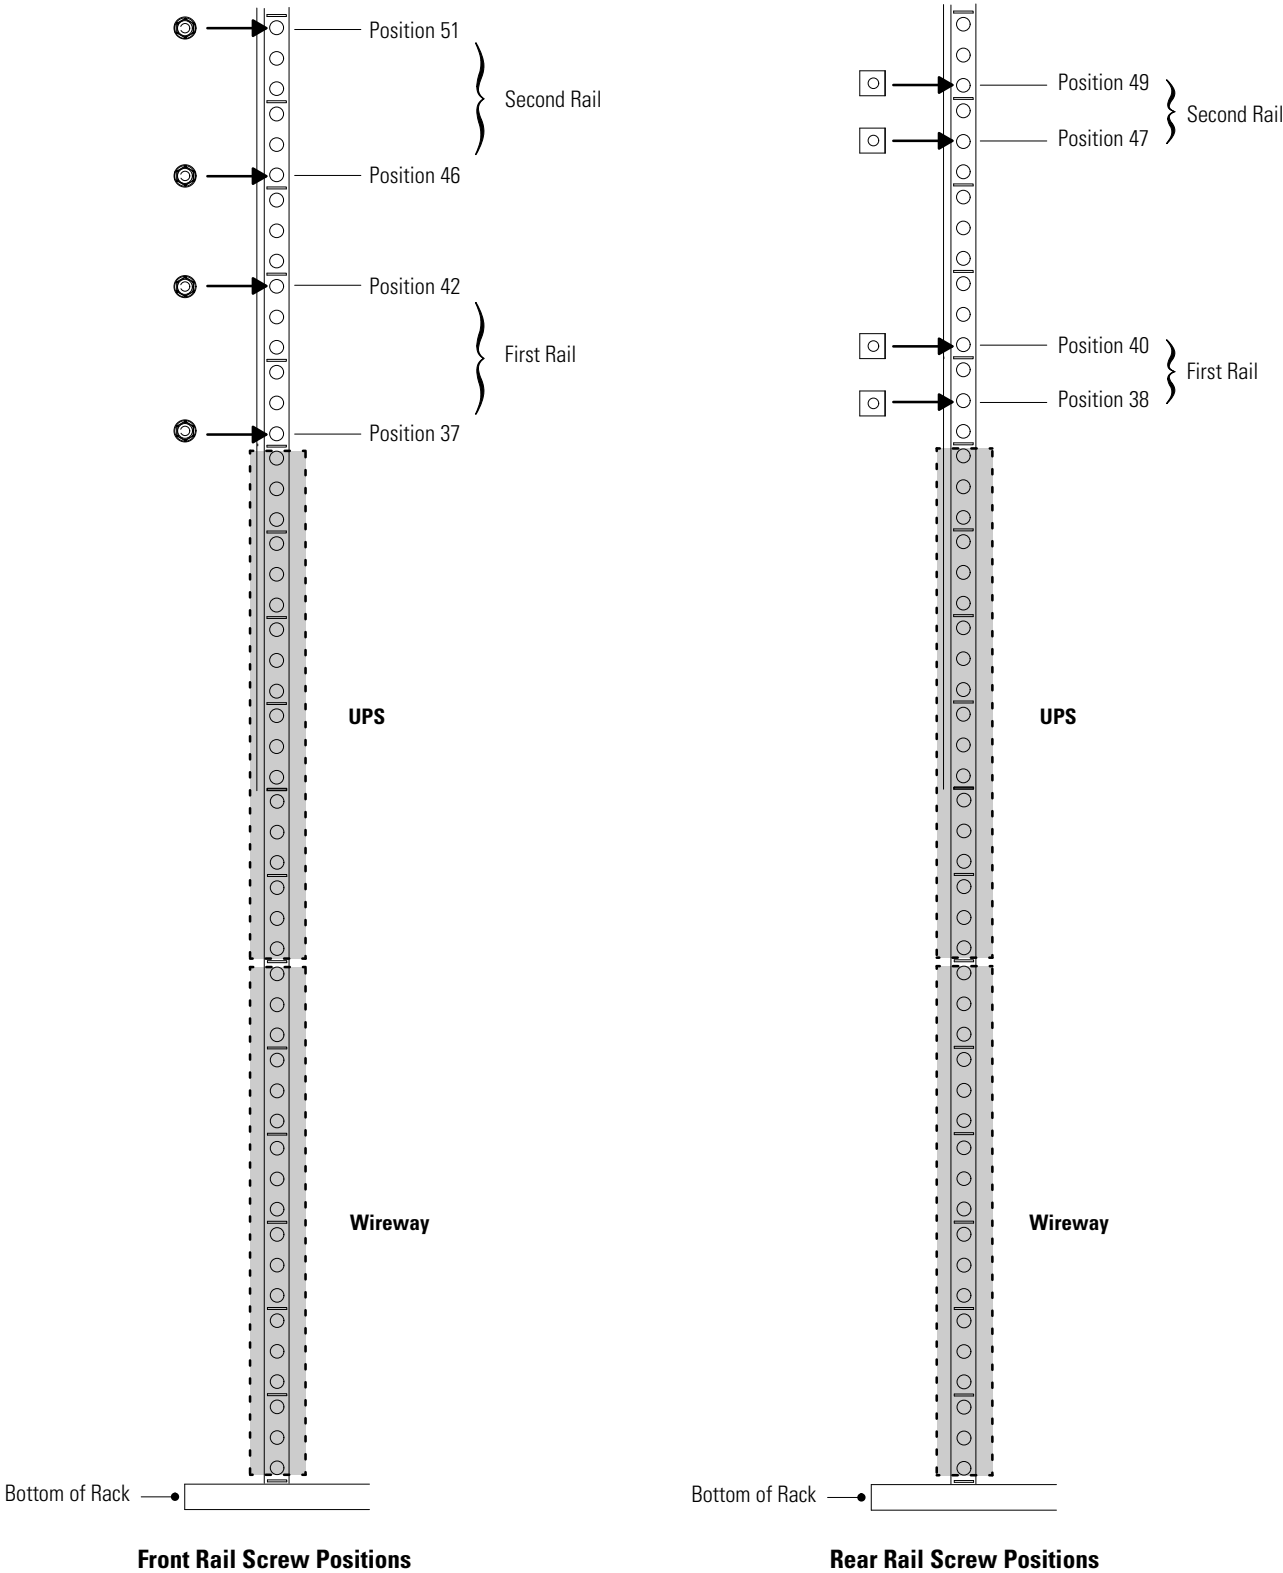
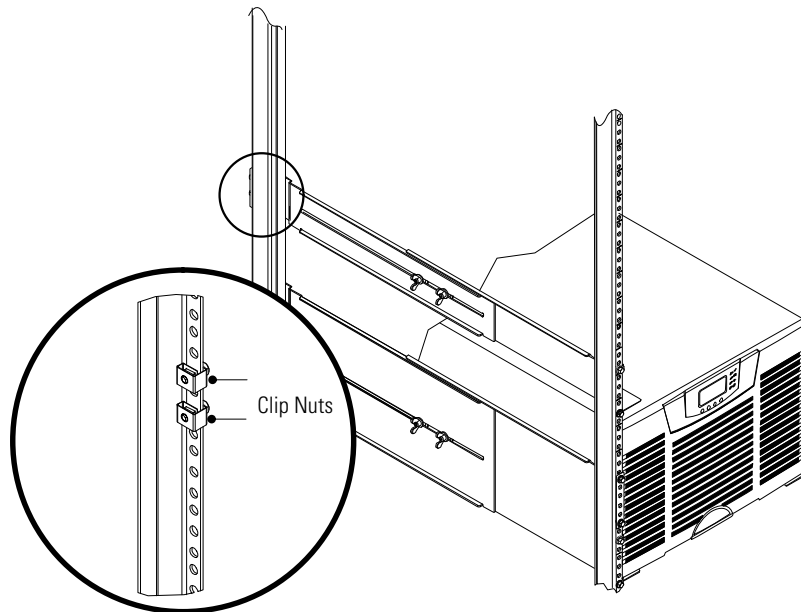

Figure 20. Rail Screw Positions for the EBM (Single UPS With Two EBMs Shown)
Figure 22. Securing the Rear Rail
Place the first rail for the first EBM above the UPS, using positions 37 and 42 for the front hex-head screws. If you are installing additional rails, place the next rail 4 holes above the last installed screw (see Figure 20).
4. Using two clip nuts and two hex-head screws, attach the rail to the rear of the rack (see Figure 20 on page 35 and Figure 22).